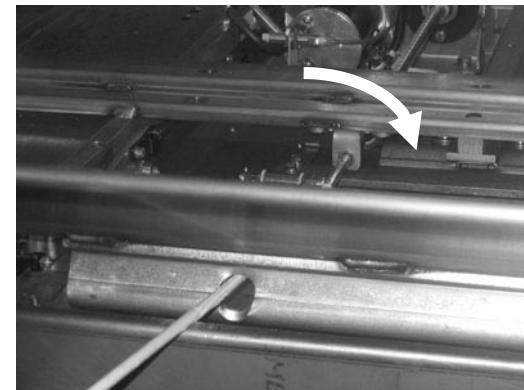

FIGURE 2-6: MANUAL OPERATION TOOL
- 5) Refer to **Figure 2-6**: Turn manual operation tool clockwise (when standing in front of ramp) to deploy ramp.